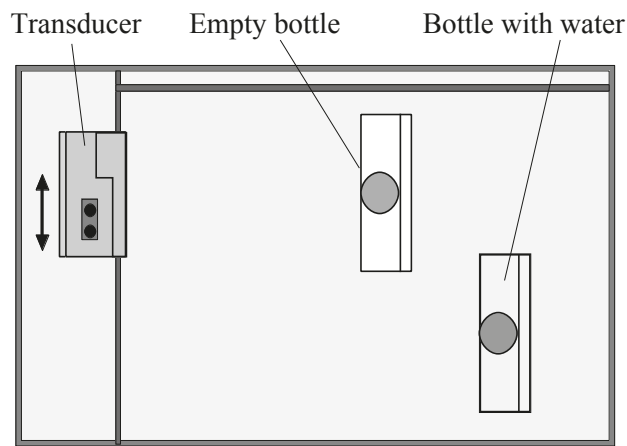

Figure 4.2.4: *Example for an arrangement of the objects for the two dimensional B-Scan.*
- Arrange two bottles in the basin such that they overlap partially – one possible arrangement is depicted in Fig. 4.2.4. Take into account that the receiver will always have at least 10 cm distance to the upper edge. Use the bottle filled with water, you may choose how to arrange them.